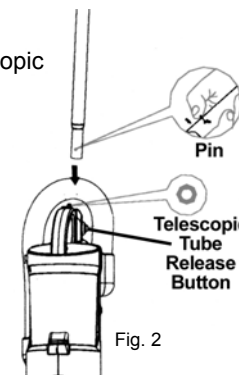

Fig. 2
- Insert the telescopic tube into the hole next to the dust cup handle. Make sure that the slot in the handle fits correctly into the opening. (Fig. 2)
- Press the telescopic tube release button to remove the telescopic tube. (See Fig. 2 page 4)